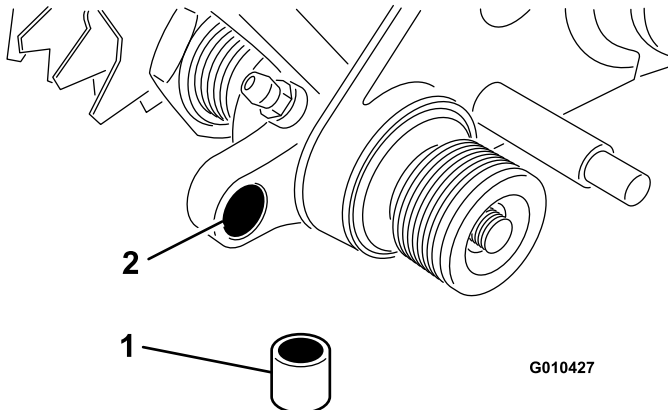

Figure 13
5. Insert a bushing into the hole in the left drive assembly (Figure 13).